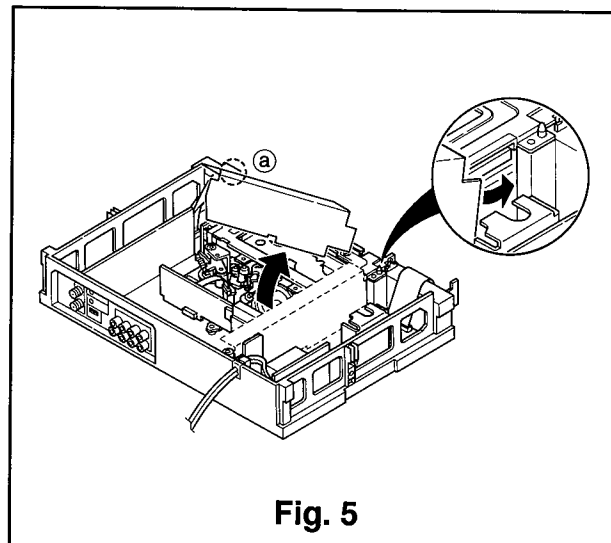

Fig. 5
- ① Pull the part (a) of the barrier and remove it, as shown in Fig. 5.